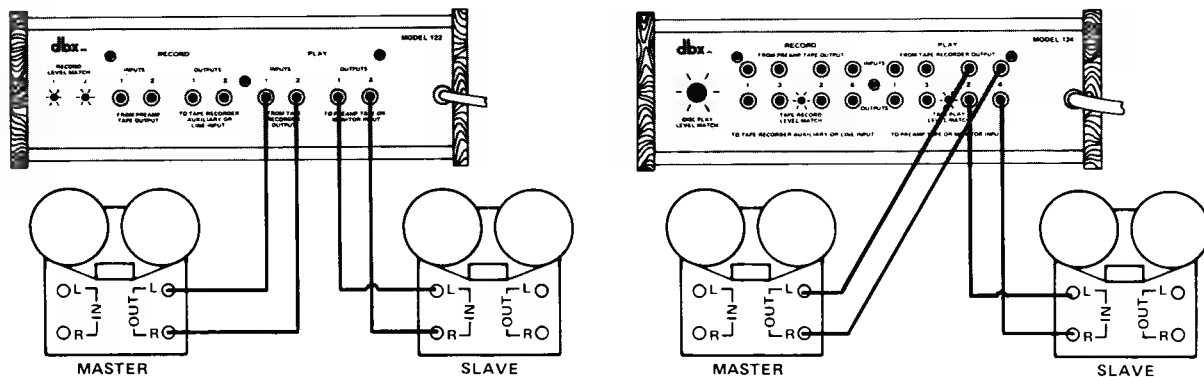

Fig. 15A — Making ■ Non-Encoded Copy from ■ dbx-Encoded Master without the Benefit of Two Tape Monitor Loops (without any preamp)
1. Either (a) disconnect the dbx PLAY OUTPUTS from the preamp’s Tape Monitor Inputs, and connect the cables instead to the slave machine’s Record Inputs (Figure 15A), or (b) simultaneously connect the dbx PLAY OUTPUTS to the preamp and to the slave’s Record Inputs by using “Y” adapters (Figure 15B).